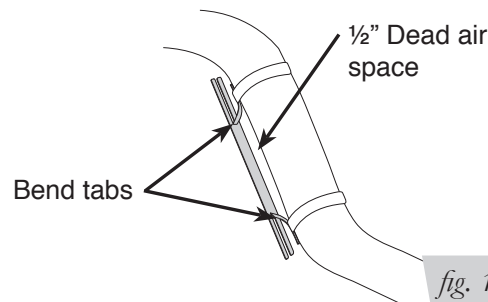

fig. 16
- Bend tabs to provide a 1/2" dead air space between exhaust pipe and heat shield (fig. 16).
- Attach the heat shield to the exhaust pipe using the clamps. Bend the heat shield for maximum clearance to the air spring (fig. 16).